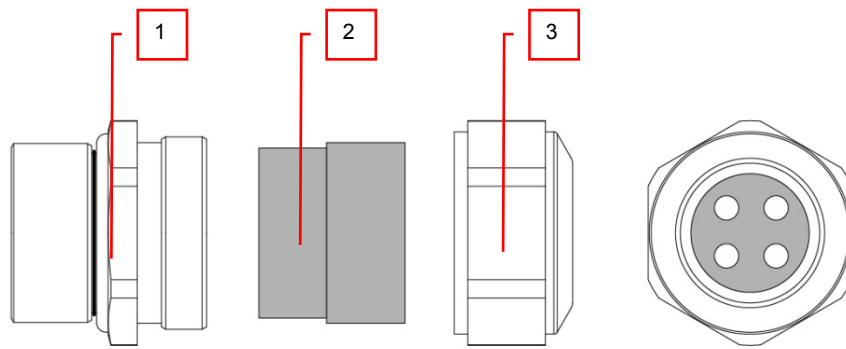

Figure 6. KDO900 adapter components
Remove the outer ring of the cable gland, thread the installation fibre filaments with connectors through the outer ring (Figure 6 pos. 3), through the sealing insert (Figure 6 pos. 2) and finally through the cable gland (Figure 6 pos. 1).